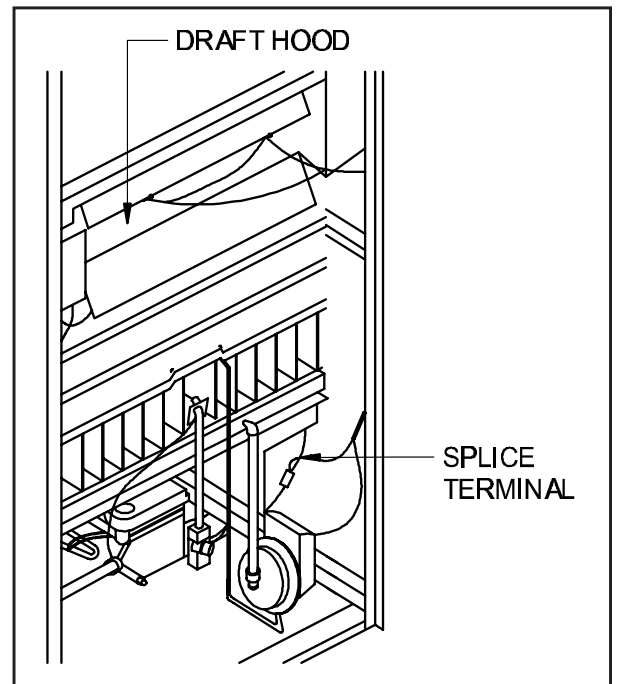

Figure 6
2. Mount the spillage switches along the opening of the draft hood. (See Figure 6) Connect one terminal on each spillage switch with the 8" jumper wire. Then connect the other two terminals to the jacketed wire. Route the jacketed wire along the frame or enclosure of the water heater, keeping the wires away from any HOT surface area. Secure the wire with adhesive tabs. (See Figure 6)
3. Splice the jacketed wire in series with one of the leads connected to the thermocouple splicing terminal. (See Figure 6)